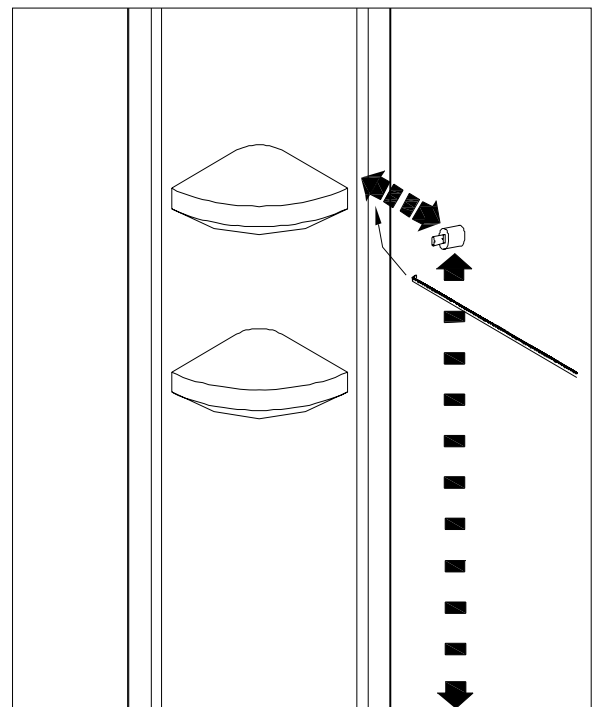

Fig 6
6. Carefully measure and drill the holes in the second side panel which will accommodate the shower head and mixing valves. Make sure that all plumbing fixtures protrude through the acrylic walls when it is put in position (Fig 6 & 7).